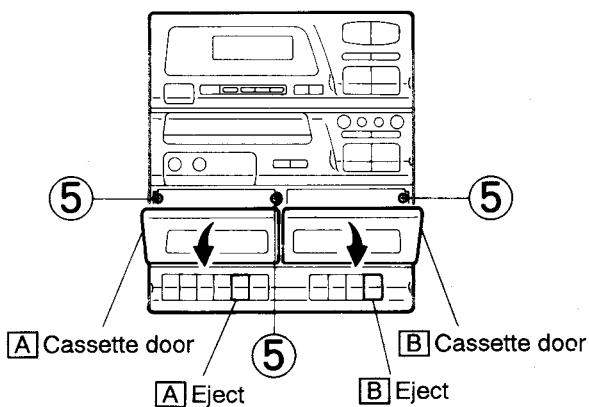

Fig. 5-5
### ■ How to Remove the Front Panel (Refer to Figs. 5-5~5-9)
1. Press the eject button of the cassette decks A and B, and open the cassette door (Refer to Fig. 5-5).
2. Remove the three screws (5) retaining the front panel ass'y as shown in Fig. 5-5.